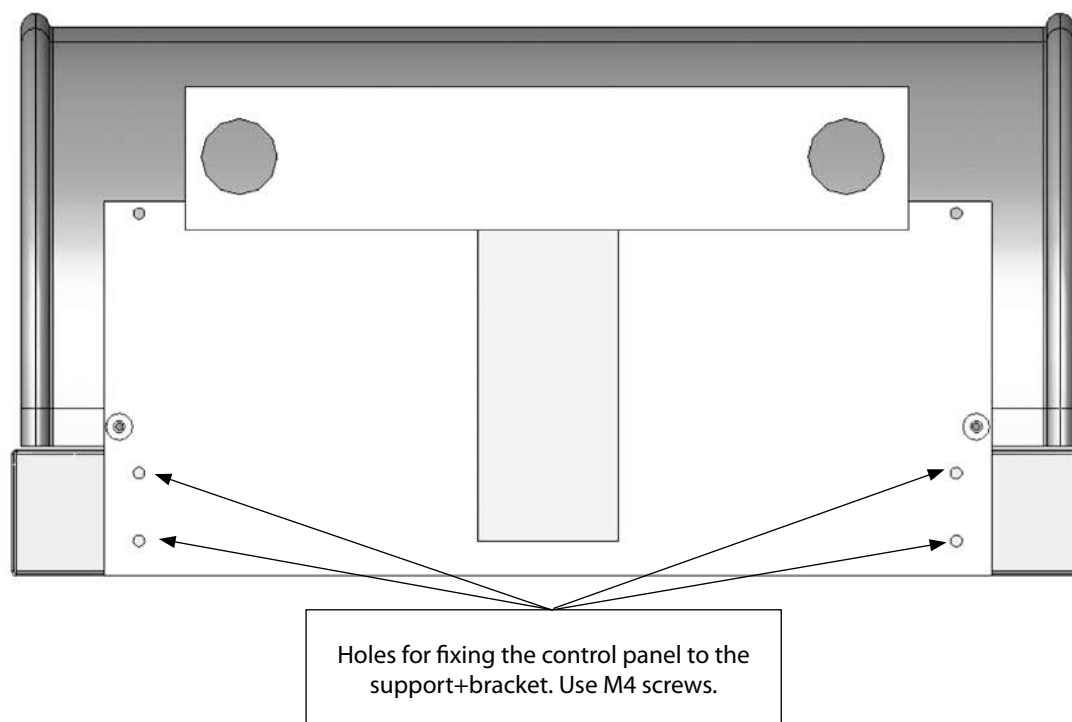

fig. 31
- 3)** fix the pre-assembled unit (**C**) of the control panel to bracket (**D**) using the M4 screws (**E**) provided (fig. 31 and 32).